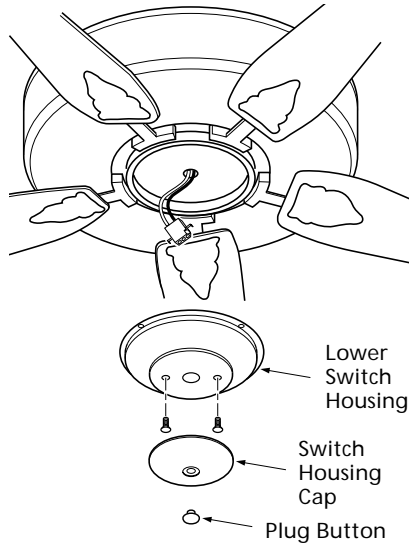

Figure 11a - Removing Plug Button and Switch Housing Cap
1. Remove the plug and switch housing caps from the lower switch housing. Refer to Figure 11a.